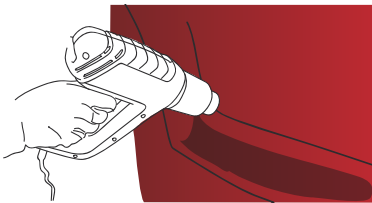

Figure 11
- › Once this step is completed, heat all the hollow parts which have undergone heavy deformation to a temperature ranging from 80 °C to 90 °C (from 176 °F to 194 °F) to kill the shape memory of the film. (FIG. 11)